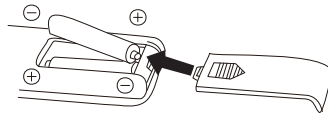

Fig 2
- 2 Insert the batteries, and make sure that the batteries are placed as shown in the Fig 2.